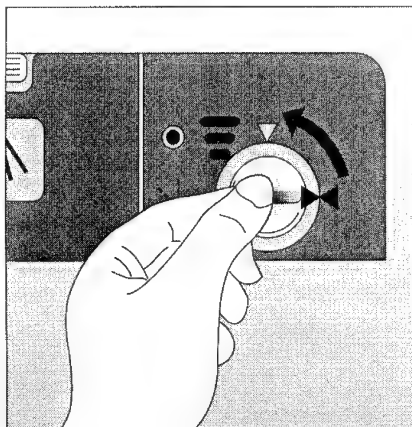

Fig. 7
- ☐ To adjust the dispenser, turn the locking lid of the rinse aid dispenser a quarter of a turn anti-clockwise and open. (Fig. 7)